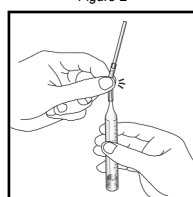

Figure 3
4. Snap the tip of the ampoule at the black snap ring (fig. 3).